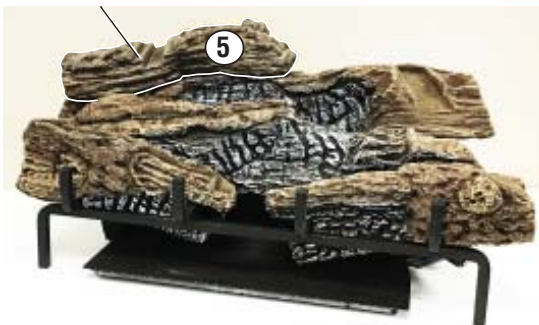

Figure 45 - Installing Log # 5
5. Place the left top back log (#5) on top of the rear log. Match the rectangular projection on top of the left side of the rear log with the rectangular hole on the bottom of the left top back log. Match the metal pin on the top of the rear log with the round hole in the bottom of the left top back log. See **Figure 45**.